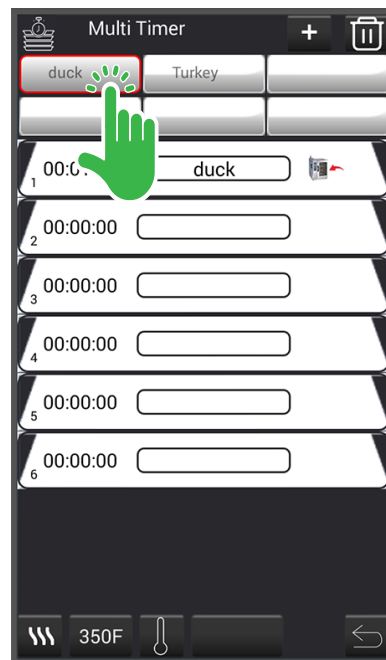

Fig. 54
2. Touch the text field button (Fig. 54), the field will have a red line around the button, and then touch the blank label field on the position timer to assign the timer a name.